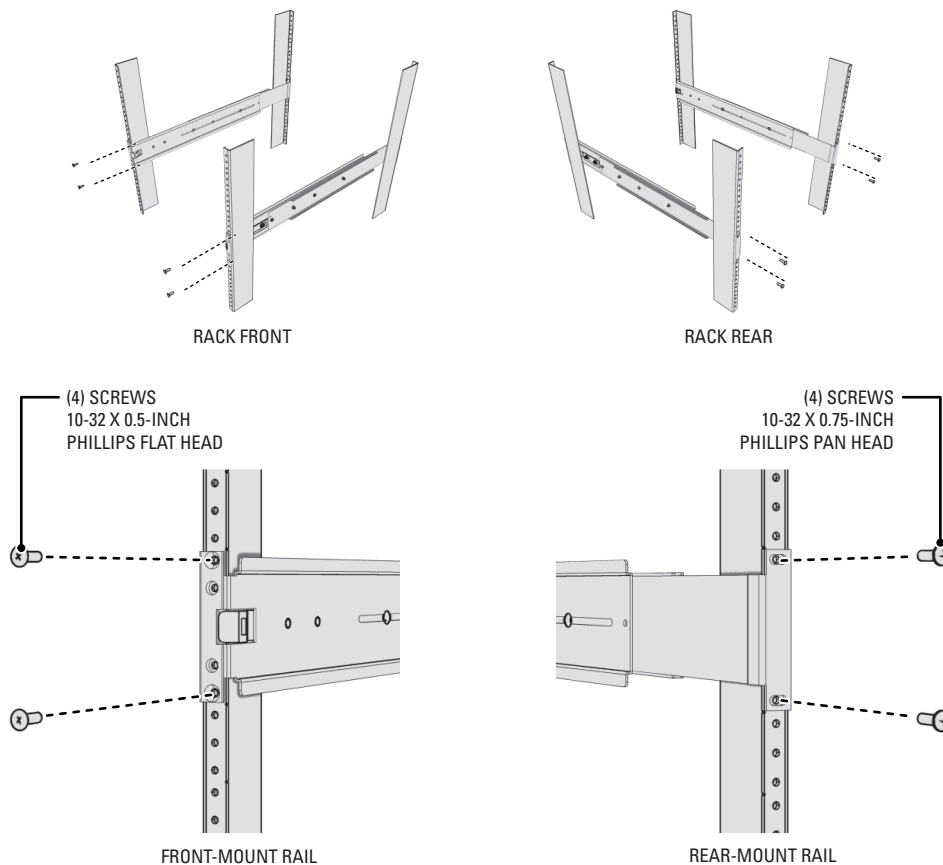

Figure 12. Attaching the Support Rails
6. Attach one support rail assembly to the equipment rack in the desired location (refer to Figure 12):